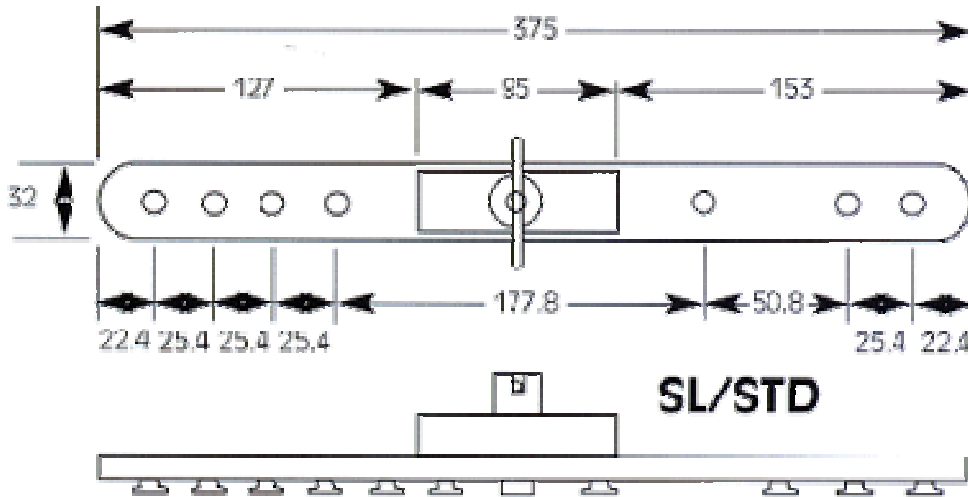

Figure 2 - Unwin Anti-Rattle Lockable Seat Fixture
6. In the case of a seat being attached to an Unwin system, the seat must be attached to the rail using Unwin Anti-Rattle Lockable Seat Fixtures as shown in Figure 2.